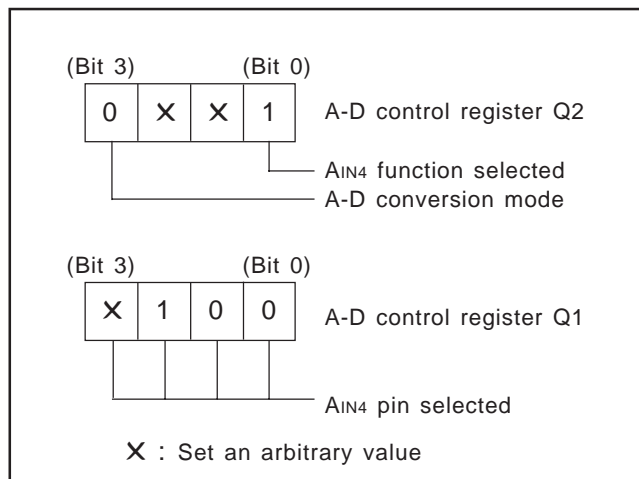

Fig. 28 Setting registers
- ① After selecting the AIN4 pin function with the bit 0 of the register Q2, select AIN4 pin and A-D conversion mode with the register Q1 (refer to Figure 28).
- ② Execute the ADST instruction and start A-D conversion.
- ③ Examine the state of ADF flag with the SNZAD instruction to determine the end of A-D conversion.
- ④ Transfer the low-order 2 bits of converted data to the high-order 2 bits of register A (TALA instruction).
- ⑤ Transfer the contents of register A to $M(Z, X, Y) = (0, 0, 2)$.
- ⑥ Transfer the high-order 8 bits of converted data to registers A and B (TABAD instruction).
- ⑦ Transfer the contents of register A to $M(Z, X, Y) = (0, 0, 1)$.
- ⑧ Transfer the contents of register B to register A, and then, store into $M(Z, X, Y) = (0, 0, 0)$.